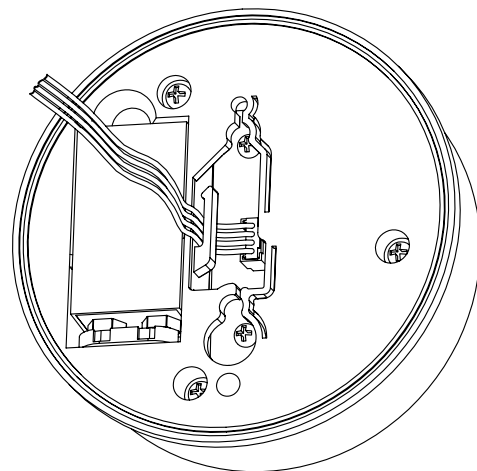

Figure 6
- c) Connect a new 9V alkaline battery to the battery clip. Snap the battery and the leads completely back into the battery compartment with the leads facing down. (Figure 6)